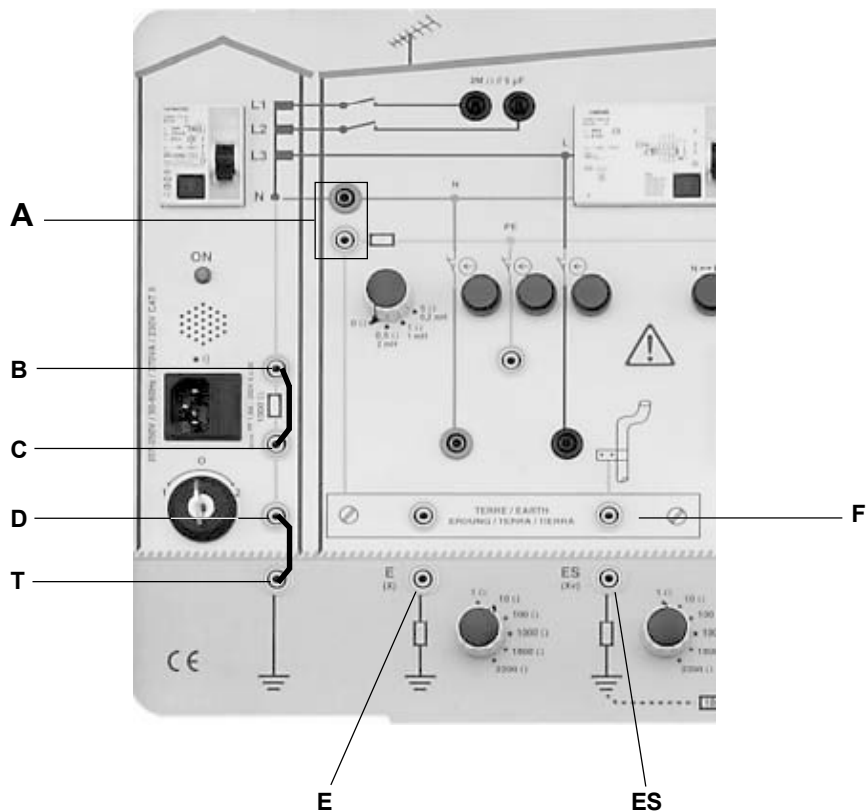

Figure 2
**Connections (see figure 2):**
### Connections (see figure 2):